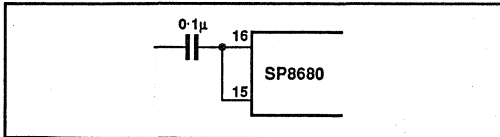
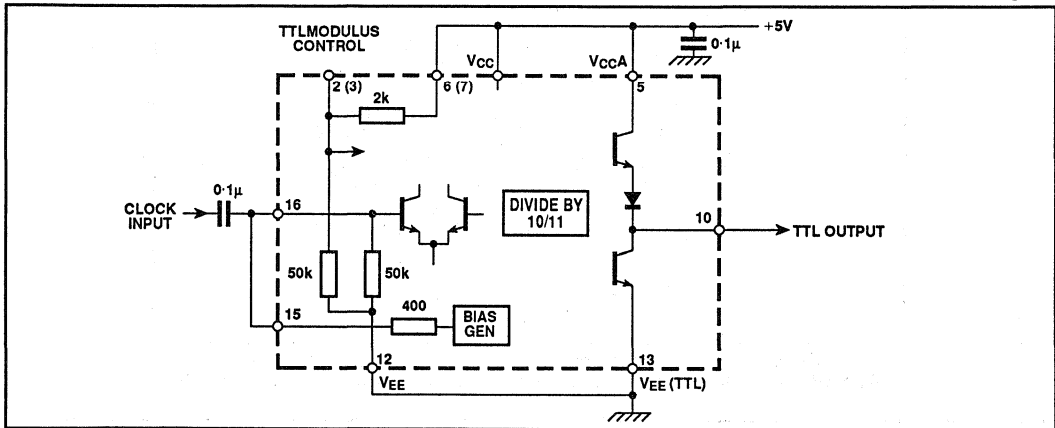
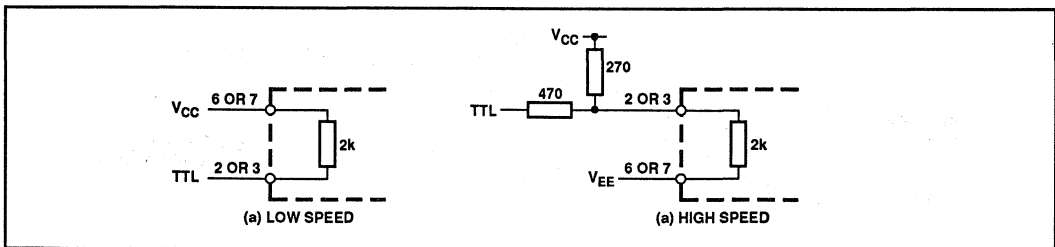

Fig. 6 AC coupled input
Fig. 7 Typical application showing TTL interfacing.
Fig. 8 TTL interface to $\overline{PE1}$ and $\overline{PE2}$
- The test configuration for dynamic testing is shown in Fig.6.
1. The clock input, which is ECL10K compatible throughout the temperature range, can also be coupled to TTL as shown in Fig. 8. The clock can also be capacitively coupled to the signal source (see Fig. 6). Connecting the internally-generated bias voltage to the clock input i.e., pin 15 to pin 16, centres the clock input about the switching threshold (see Fig.7).